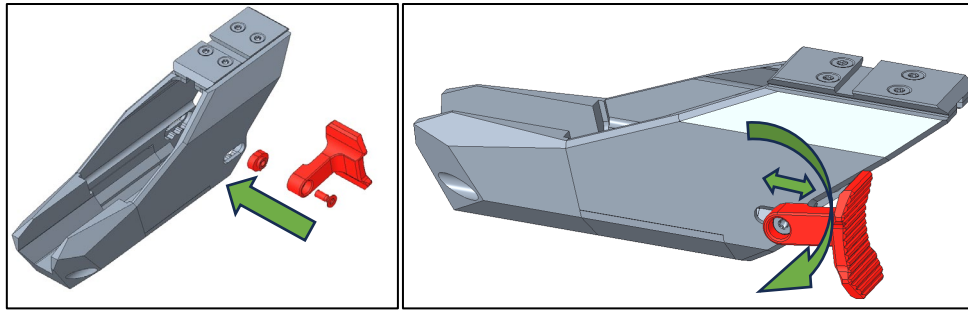

Figure 49: a) Thumb rest components; b) thumb rest positioning (distance and rotation)
3. Attaching the thumb rest. Thumb rest is also included in the bridge mount pack. Figure below is showing required parts. Thumb rest can be adjusted by angle and for different length of user's thumb. Use M3x8mm fastener (supplied) to secure it (T10 Torx key, Figure 49).